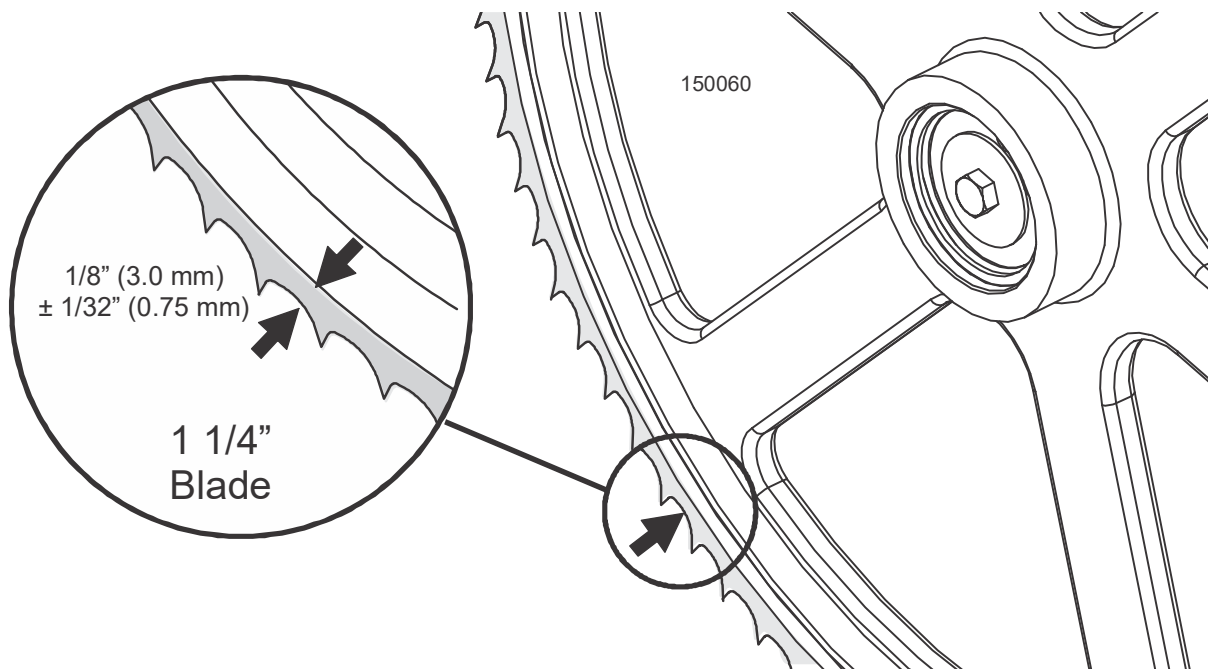

FIG. 3-35
5. Position 1 1/4" wide blades on the wheels so the gullet is 1/8" (3.0 mm) out from the edge of the wheel. See FIG. 3-35..